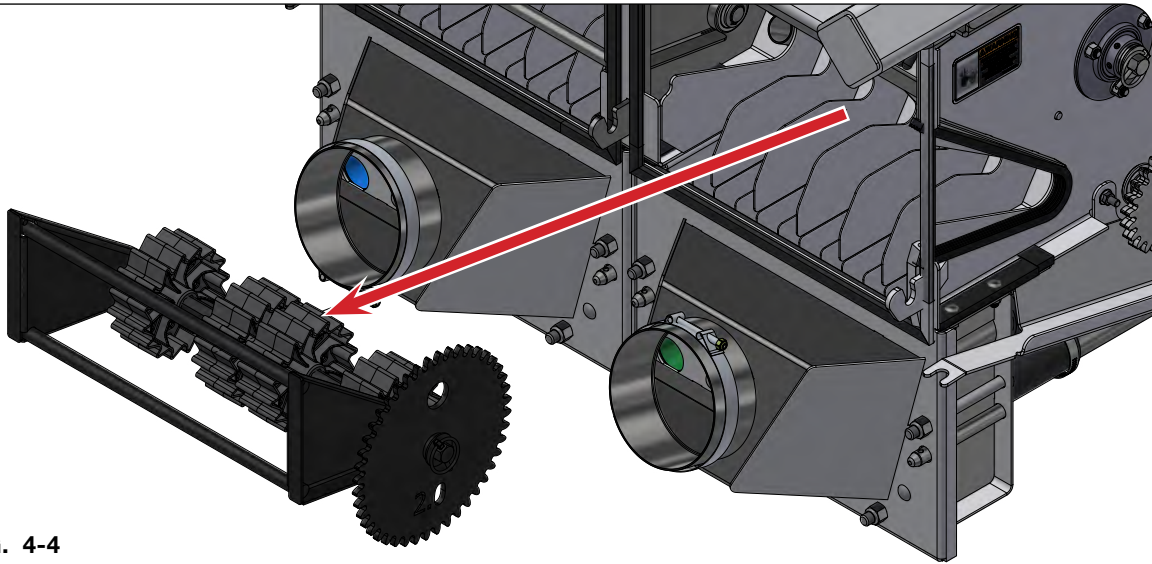

FIG. 4-4
6. Remove the meter wheel housing section. (FIG. 4-4)
8. Replace the meter wheel housing section and making sure the sprockets align. (FIG 4-4)